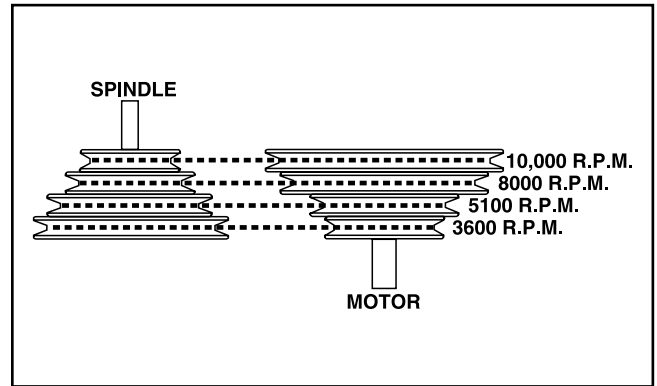

Figure 27. Spindle speed adjustment.
3. Select the desired speed. There are four speeds: 3600 R.P.M., 5100 R.P.M., 8000 R.P.M., and 10,000 R.P.M. **Figure 27** shows the belt positions for each available speed.